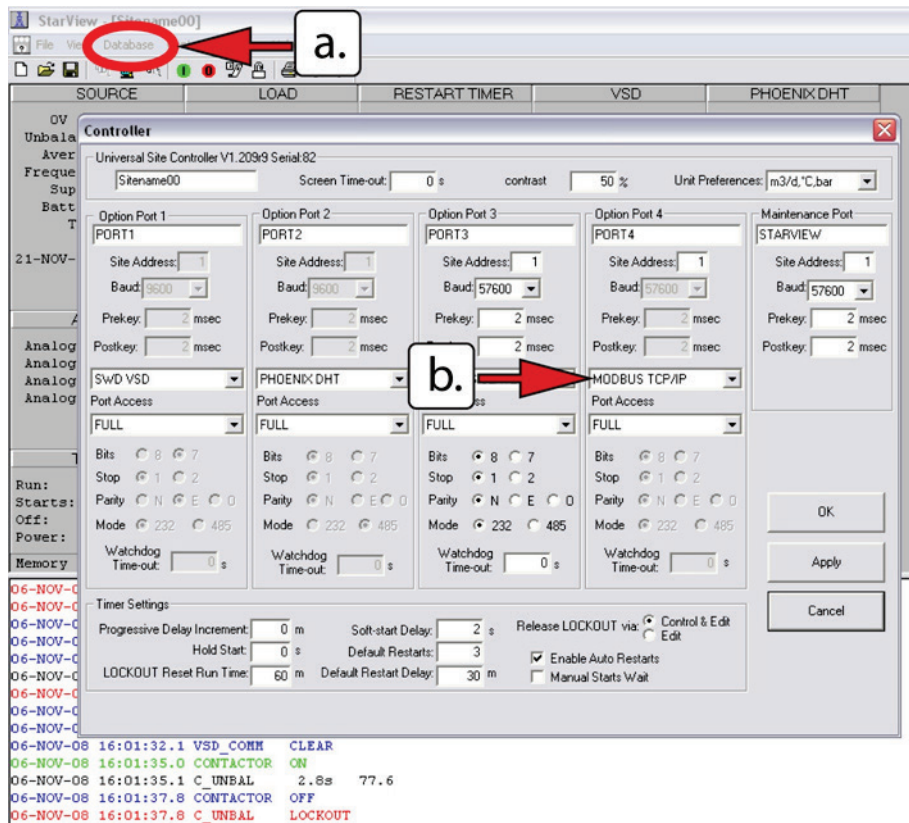

Figure 6-9: Legacy StarView Controller Window
3. Wait until the database is uploaded and then choose **Database>Controller**. See item “a” in Figure 6-9.
4. Set the UniConn slot that is occupied by the Modbus TCP/IP card to MODBUS TCP/IP. See item “b” in Figure 6-9.